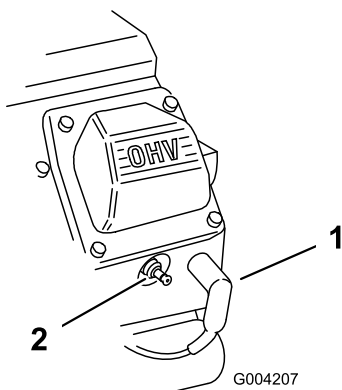

Figure 155
3. Assemble the spark-plug wires onto the spark plugs (Figure 155).